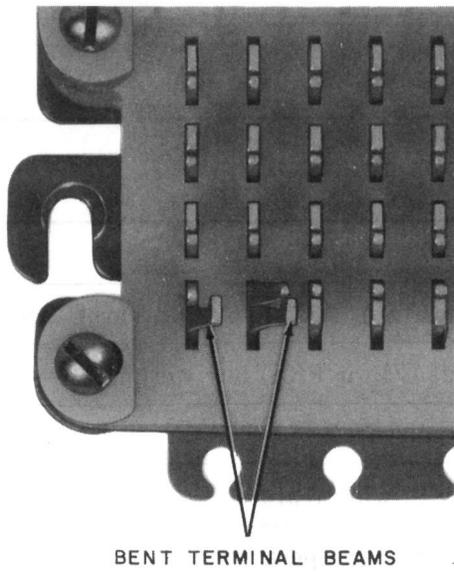

Fig. 21—Misaligned Terminal Beams
8.02 Terminals which have been bent or misaligned, as shown in Fig. 21, may be corrected by using long-noise pliers (Fig. 22). The bent beam should be moved until it is aligned with its mate or with other terminals of the same row. Care should be taken not to move beams or terminals in a direction which would spring or open the contact surfaces between the two beams.